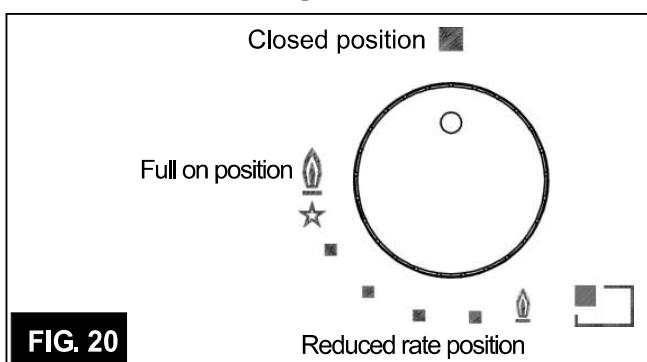

FIG. 20
Push and turn the knob corresponding to the required burner in an anticlockwise direction until it reaches the full on position (large flame fig. 20), then depress the knob.
The knobs of burners equipped with flame failure device must be turned in an anticlockwise direction until they reach the full on position (large flame fig. 20) and come to a stop. Now depress the knob in question and repeat the previously indicated operations.
- When the pan comes to the boil, set the knob to the reduced rate position (small flame fig. 20).
- burners with flame failure device may only be ignited when the relative knob has been set to the Full on position (large flame fig. 20).